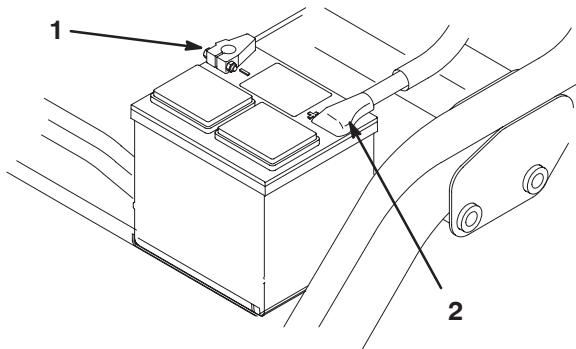

Figure 6
- First, install the positive cable (red) to the positive (+) terminal and then the negative cable (black) to the negative (-) terminal of the battery and secure them with the bolts and nuts (Fig. 6). Slide the rubber boot over the positive terminal to prevent a possible short from occurring.